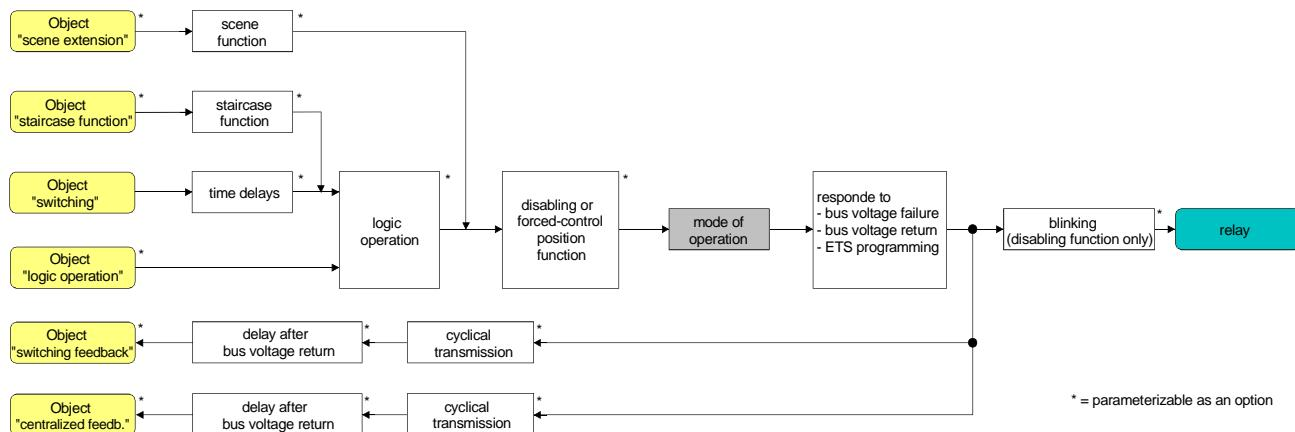

Fig. 6: Functional diagram "Mode of operation"
- The logic switching state ("on - 1" or "off - 0") is set by the communication object "Switching" and influenced by the functions that can be optionally activated (e.g. timing/staircase functions, logic operations, disabling/forced-control position functions, scenes – cf. Fig. 6).